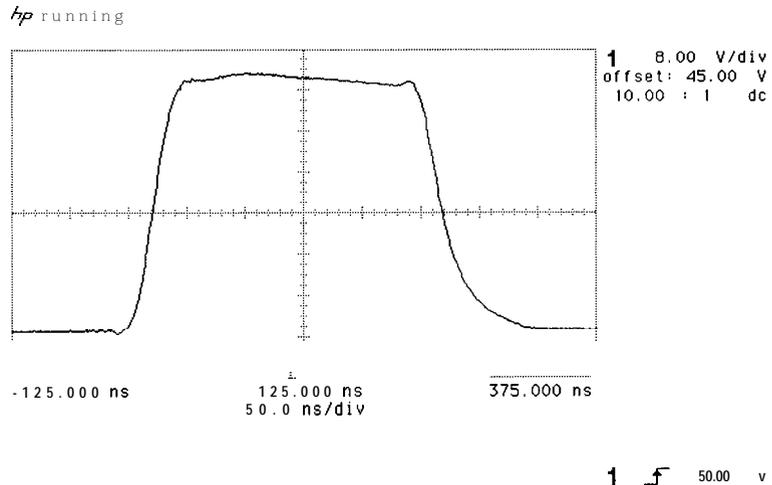

Figure 3-29. 50V_{p-p} Signal
30. Adjust the spectrum analyzer's front-panel INTENSITY control for 50V peak-to-peak (8 divisions) as indicated on the oscilloscope. See Figure 3-29.